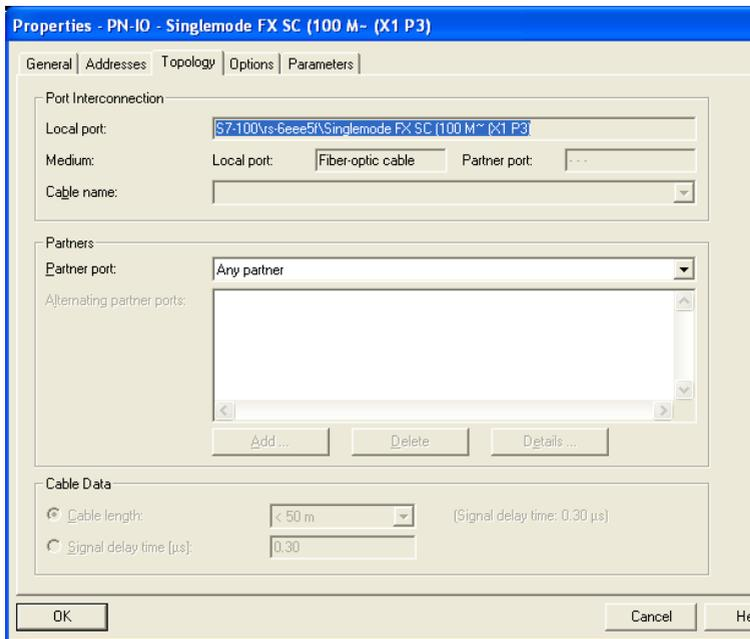

Figure 17: Dialog for entering the topology
- Under `Port Interconnection/Local port`, select the required setting for the port (see figure 17).
- Under `Partner/Partner port`, select the required setting for the partner port (see figure 17).